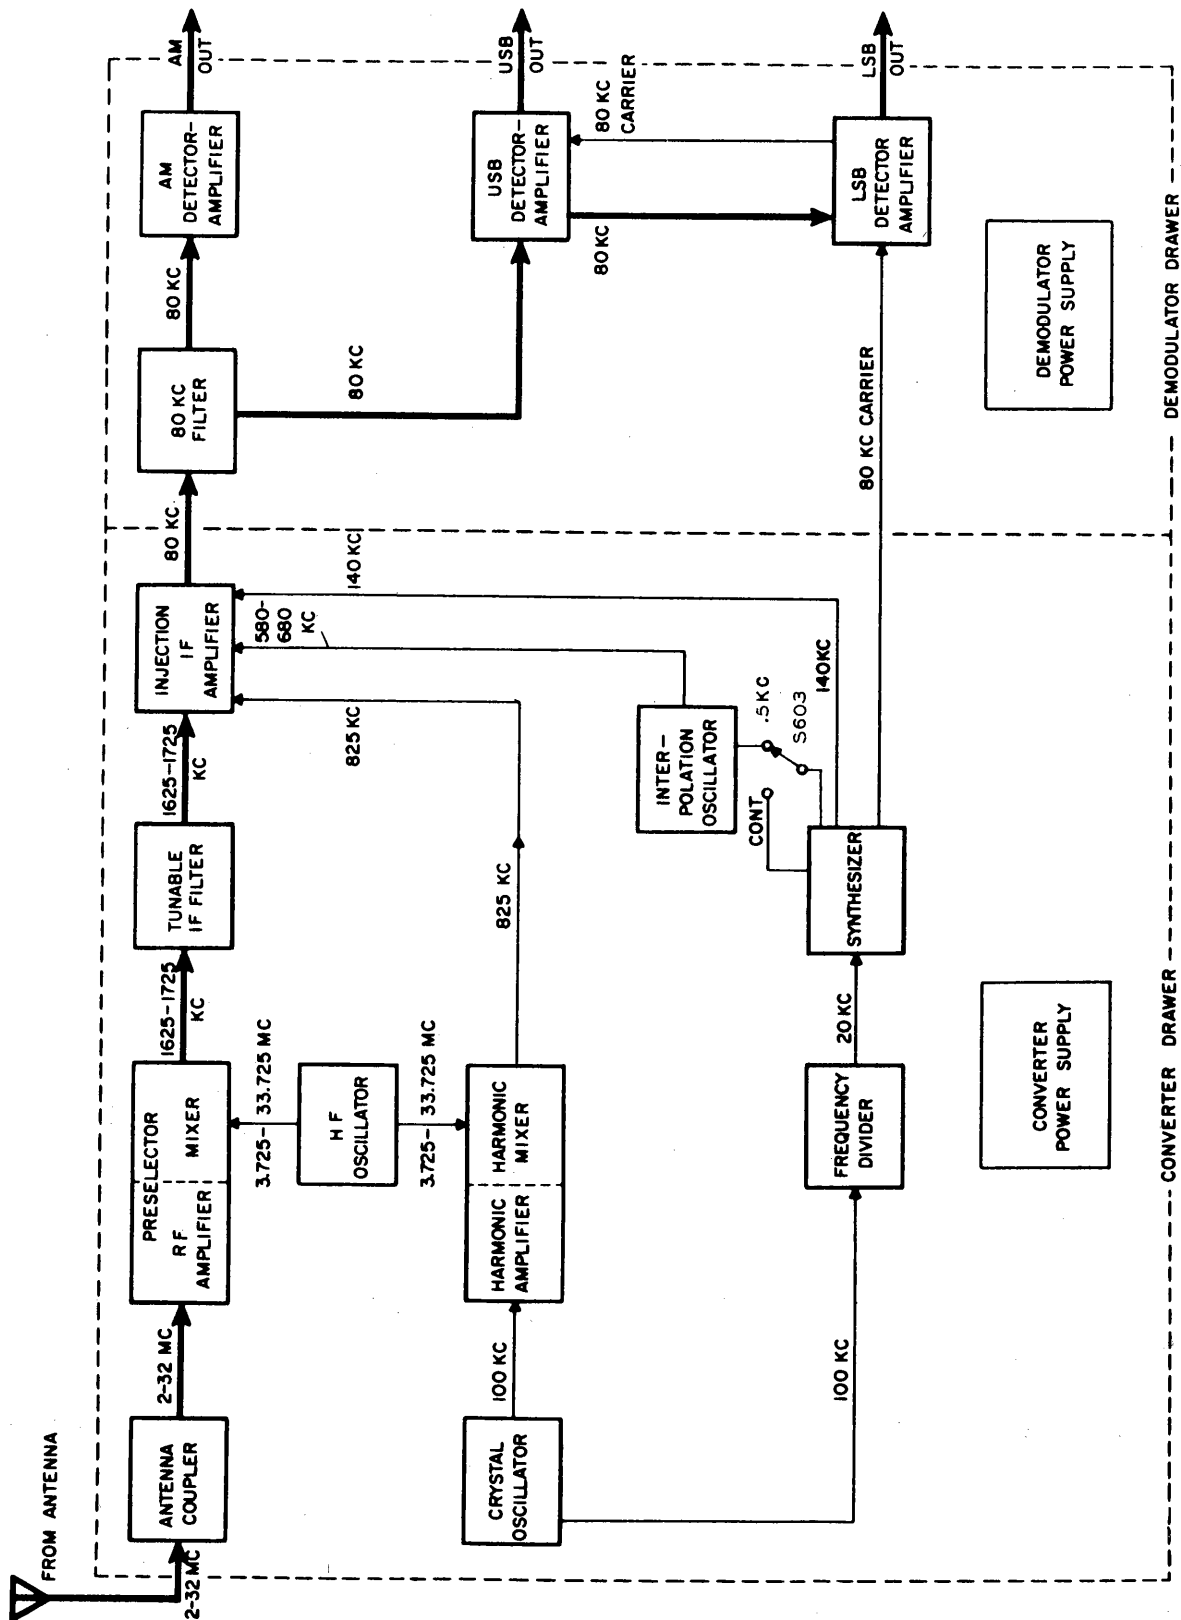

Figure 4-2. Radio Receiving Sets AN/WRR-2A and AN/FRR-59A, Functional Block Diagram
*c. FUNCTIONAL OPERATION.*—Figure 4-2 is a block diagram showing the converter and demodulator as separate major units. The main signal path through the various assemblies is indicated by a heavy line.
(2) **DEMODULATOR.**—In the demodulator the 80 kc filter receives the signal and distributes it to the amplitude-modulated (AM) and upper-sideband (USB) detector-amplifiers. The latter supplies the 80 kc signal to the lower-sideband (LSB) detector-amplifier.
detected. Several stages of audio amplification follow. A beat-frequency oscillator (BFO) is also included for reception of CW signals. Audio limiting, silencing, and automatic gain control (AGC) circuits are also included but are not shown in figure 4-2.
(b) USB DETECTOR-AMPLIFIER.—In the USB detector-amplifier the 80 kc signal is amplified and applied to a ring-type demodulator where it is mixed with an 80 kc carrier to produce an audio output. A two-stage audio amplifier, and an AGC circuit are also included but not shown in figure 4-2.
(c) LSB DETECTOR-AMPLIFIER.—In the LSB detector-amplifier the 80 kc signal is amplified and also applied to a ring-type demodulator, similar to that in the USB. A two-stage audio amplifier, and an AGC circuit are also included but not shown in figure 4-2.